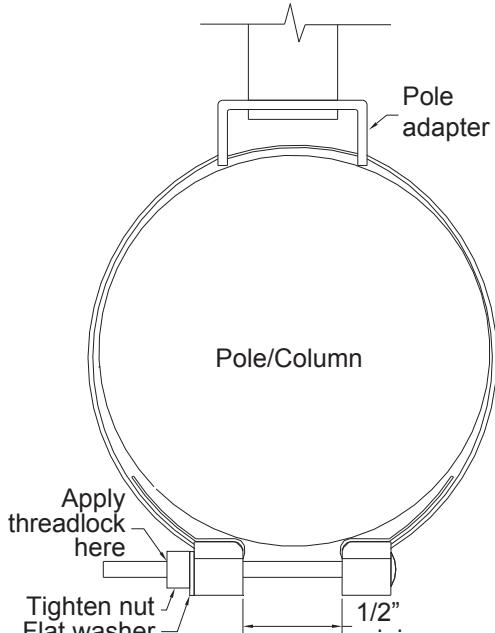

Figure 5
**Step 7:** Tighten the carriage bolt assembly until all slack has been removed from the fully loaded assembly. Retainer blocks must have a minimum of 1/2" gap after fully tighten. Do not over tighten (Figure 5).